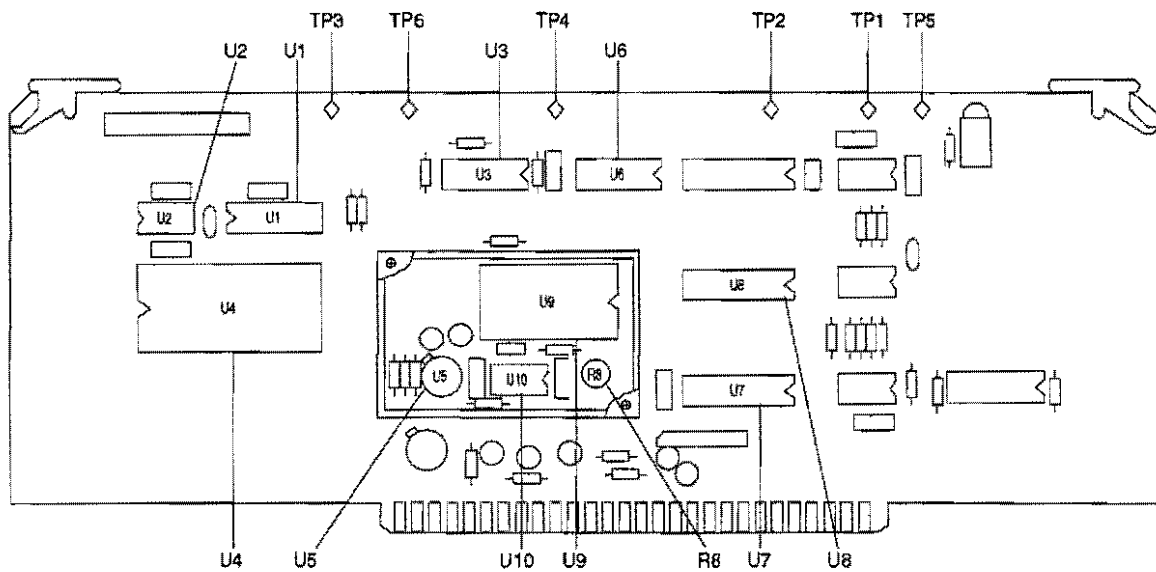

Figure 10-16. A5 PCB Component Locations
- Step 4.** Connect the digital multimeter leads between A5TP6 (+) and A5TP1 (-) (Figure 10-16).
- Step 8.** Remove the cover from the F Center circuit (U5,U9, U10) (Figure 10-16).
- Step 4.** Move A5P3 jumper to pins 2 and 3 (Figure 10-16).